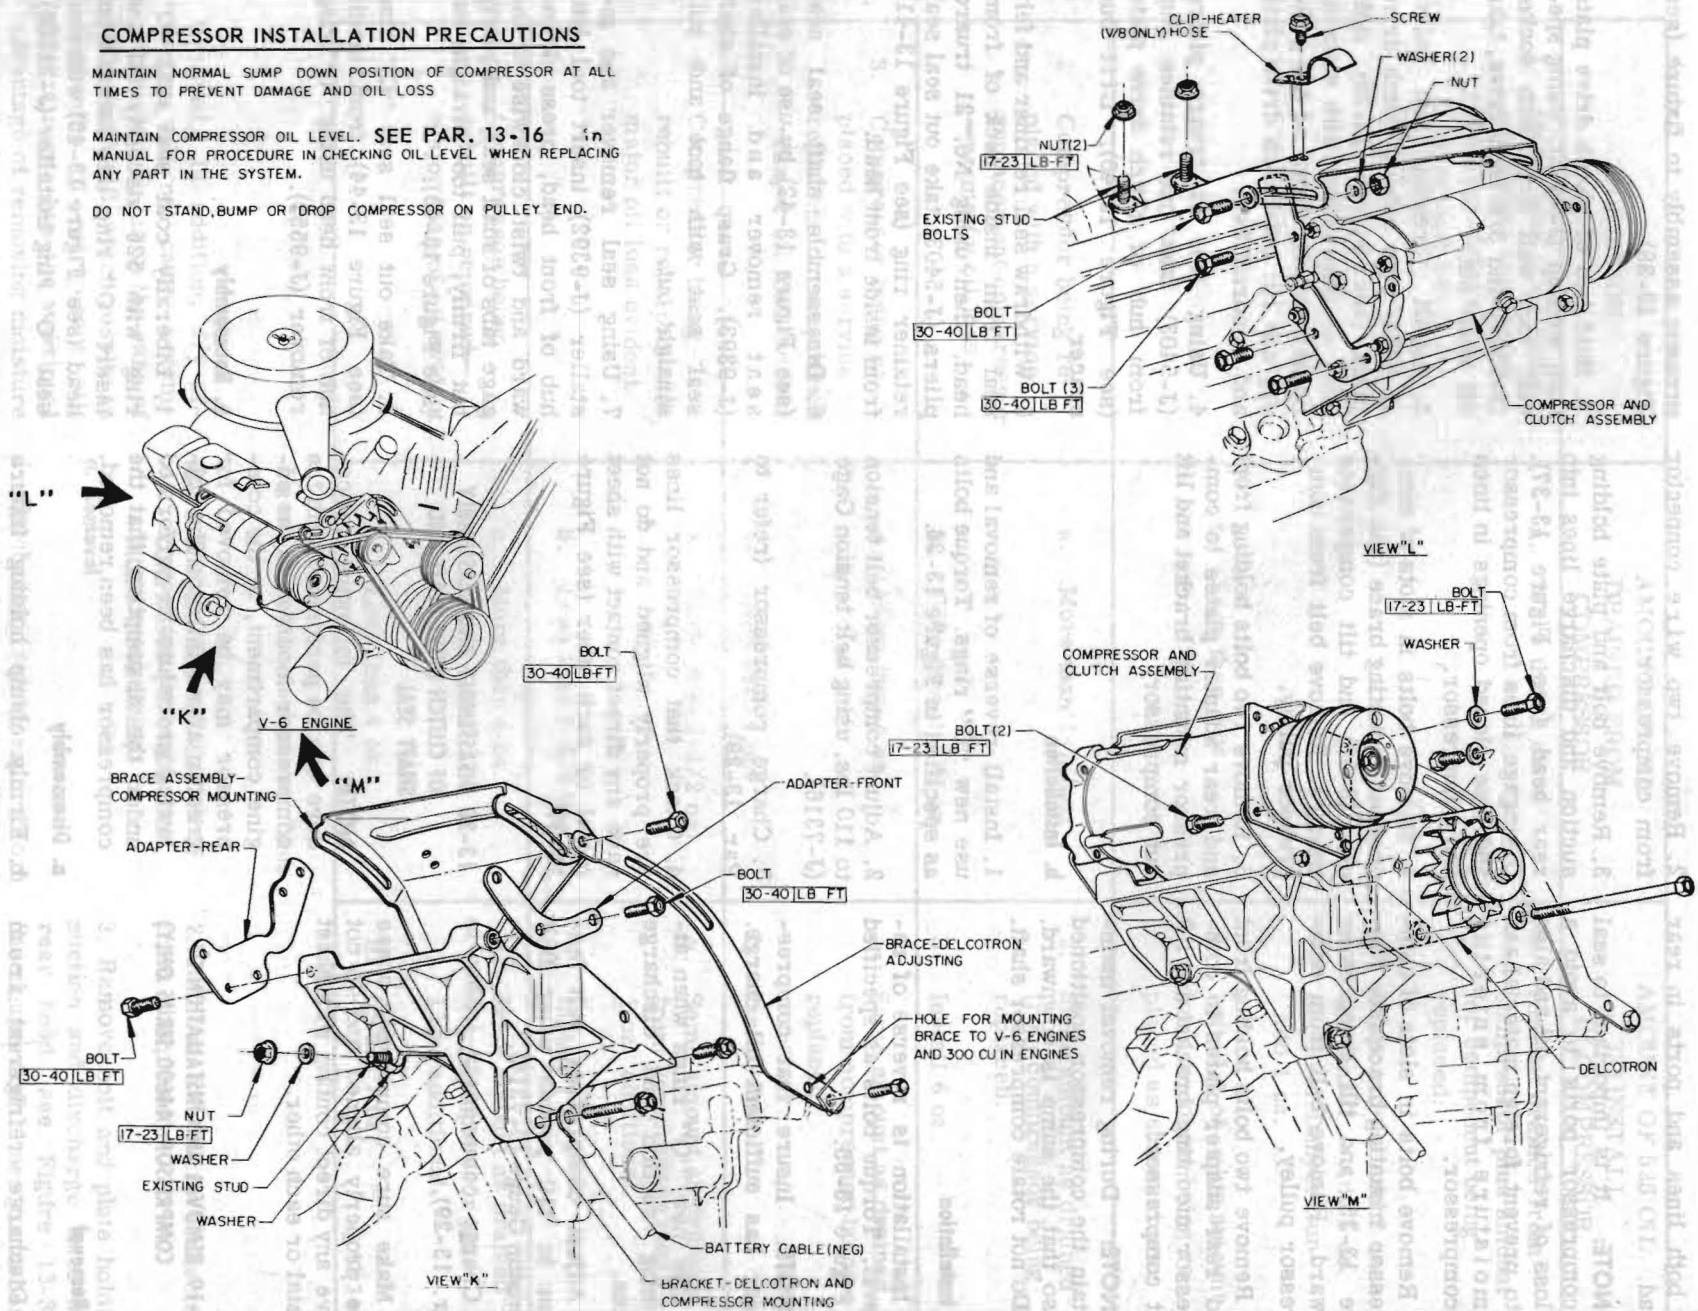

Figure 13-35—Compressor Installation (43-44000 Series Except Gran Sport 400)
4. Remove bolts in slots of compressor mounting brace (see Figure 13-35) and tilt compressor inward. Remove belt from compressor pulley.
1. Installation is reverse of removal. Torque bolts as specified in Figure 13-35.